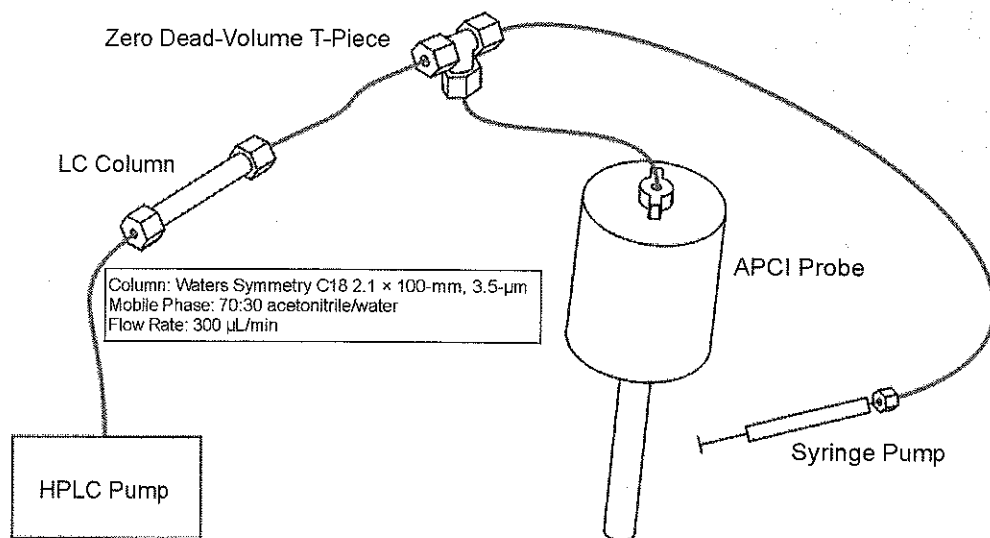

Figure 3-3 Pump and Column Connections to the APCI Probe
2. Complete the connections between HPLC pump, LC column, syringe pump, and APCI probe as shown in Figure 3-3.